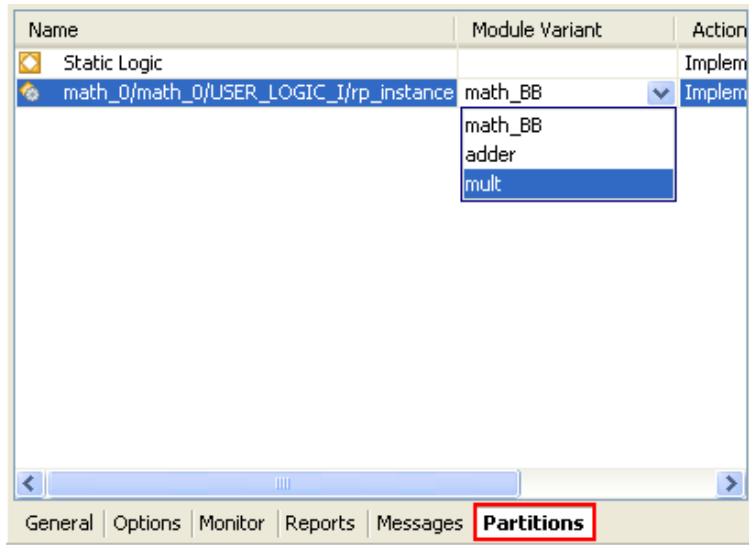

Figure 25: Implementation Run
- 8-2-8.** In the Partitions tab, click the drop-down button in the Module Variant column and select **mult** as the variant, as shown in Figure 25.